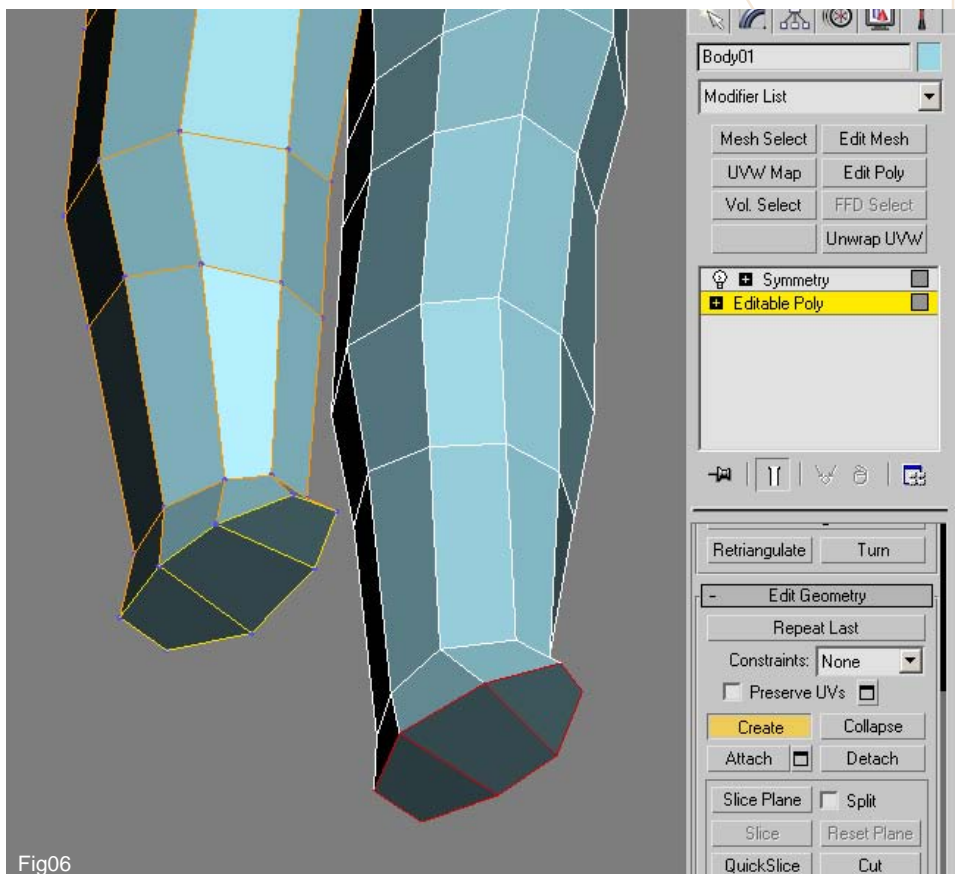

Fig06
6. We have now built the leg and it is time to create the foot. You will notice that the poly's that make up the leg are open ended and need to be capped in order to form the sole of the foot. We do this by either selecting one of the edges in sub-object Border mode and then clicking on "Cap" or simply creating three extra poly's that run across the foot in Poly mode as seen in Fig06.